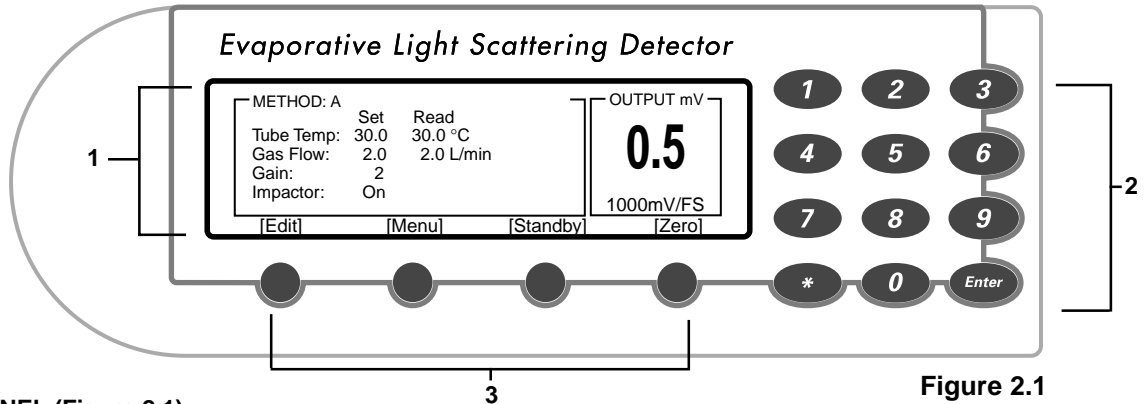

Figure 2.1
2.3.1 FRONT PANEL (Figure 2.1)